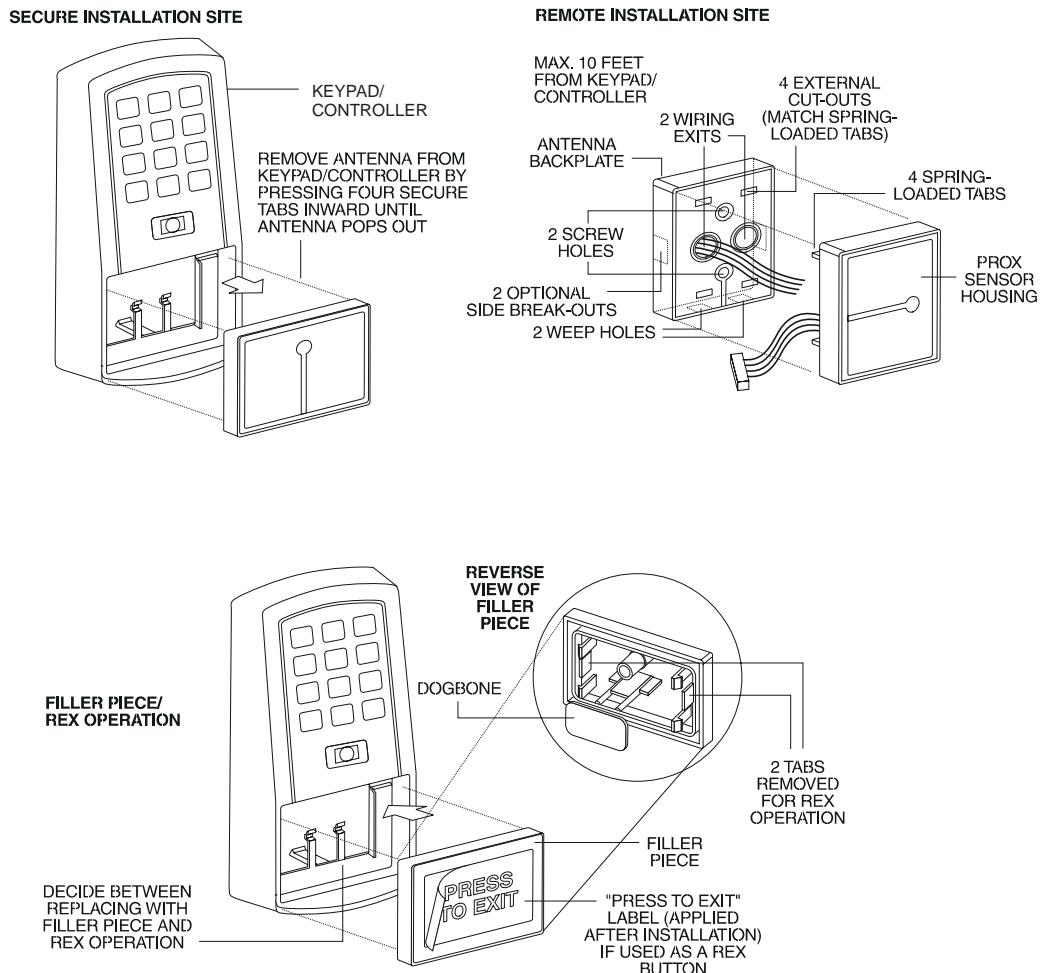

Figure 2-5 Performing a Secure Installation
| | NOTE: Pins 1, 2, 3 can be wired at the installer's option for one of the following alarm outputs, Alarm Shunt, Forced Door, or Propped Door. Mandatory: If you do not wish to install door contacts per Figure 2-5, twist white and orange wires together. If not done, REX input will not work. | | |
- When handling the main printed circuit board, to guard against possible static discharges, touch a grounded object BEFORE touching the prox.pad plus unit. Remove the main printed circuit board by pressing the two spring tabs in the direction of the arrows as shown in Figure 2-5. Be careful with the wires.
- Remove the antenna housing from the keypad/controller by pressing the labeled four secure tabs inward (see Figure 2-5) until the sensor housing “pops out.”
- If you elect to use the filler piece as a REX switch, return to the keypad/controller and break off two tabs on the filler piece as illustrated in Figure 2-5. The filler piece replaces the antenna on the front of the keypad/controller for secure installations.